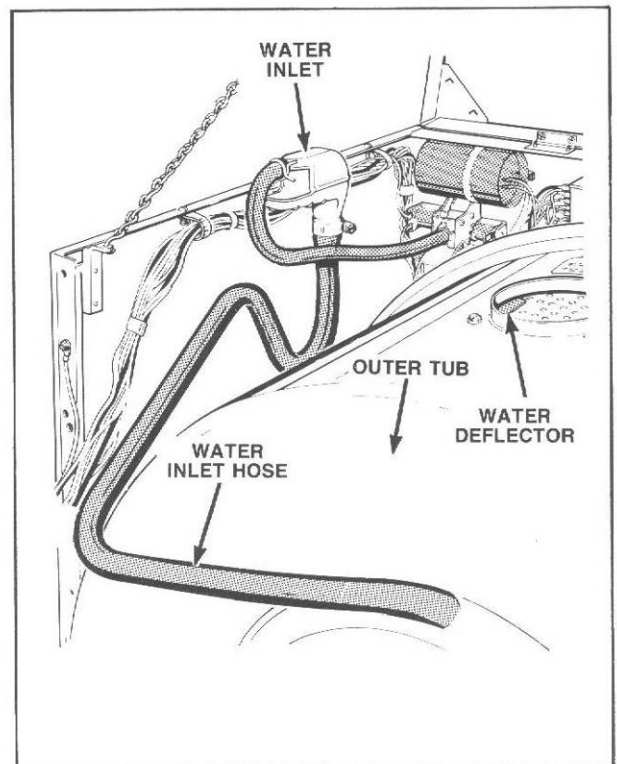

Figure 33
- h. Disconnect water inlet hose from water inlet, *Figure 33*, and hose from pressure switch.
- j. Remove two screws holding water deflector to outer tub, *Figure 33*, and lift deflector out through dispenser opening.